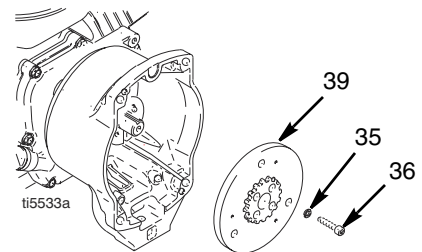

FIG. 7
9. FIG. 7. Use an impact wrench or wedge something between clutch armature (39) and clutch housing to hold engine shaft during removal.
10. Remove four screws (36) and lock washers (35).
11. Remove armature (39).